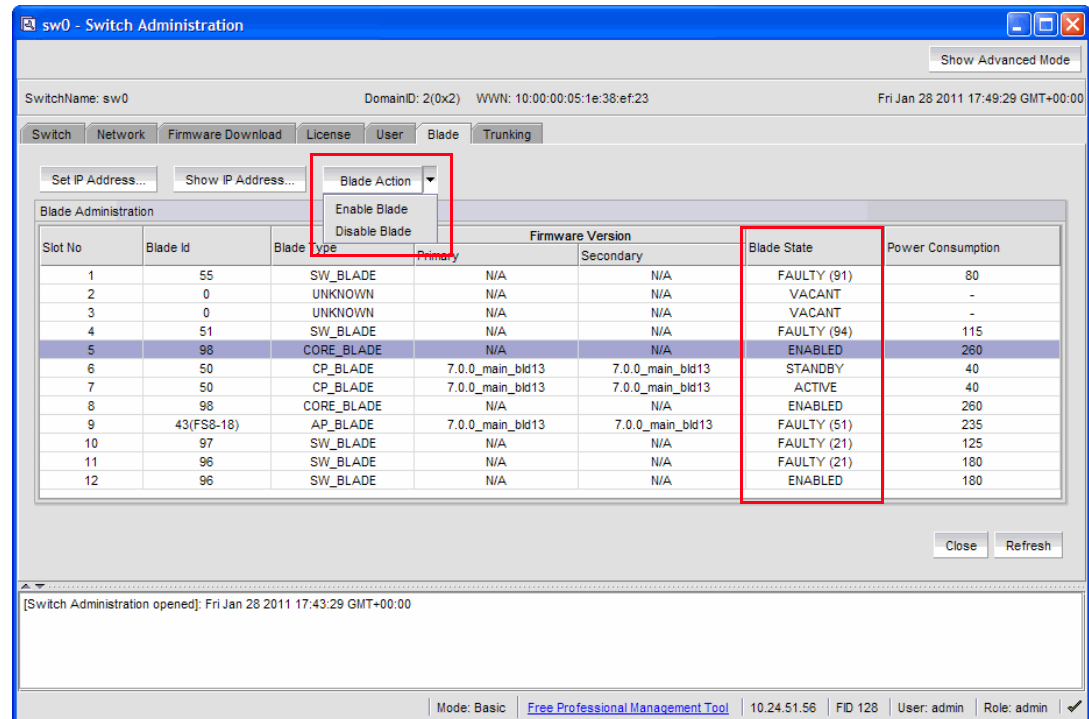

FIGURE 9 Blade tab
2. Select the **Blade** tab (Figure 9).